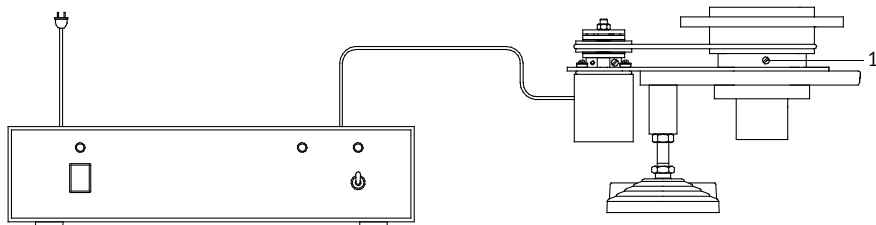

Fig. 7. Drive Assembly Diagram
6.2 Assemble the Drive according to Fig. 7. To do this, it's necessary to install the mechanical part on the IPS rack of the deadweight gauge by fixing screws 6 (4 pcs.).
6.4 Install the drive belt on the pulleys of the drive and slave units (Fig. 7)